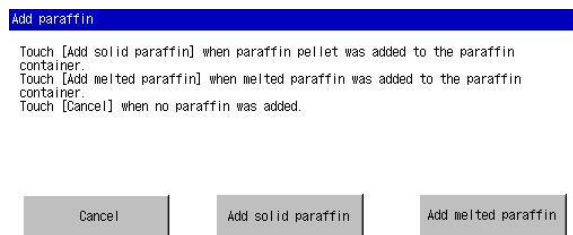

Figure 3-III
- The start paraffin melt screen displays (Figure 3-III).